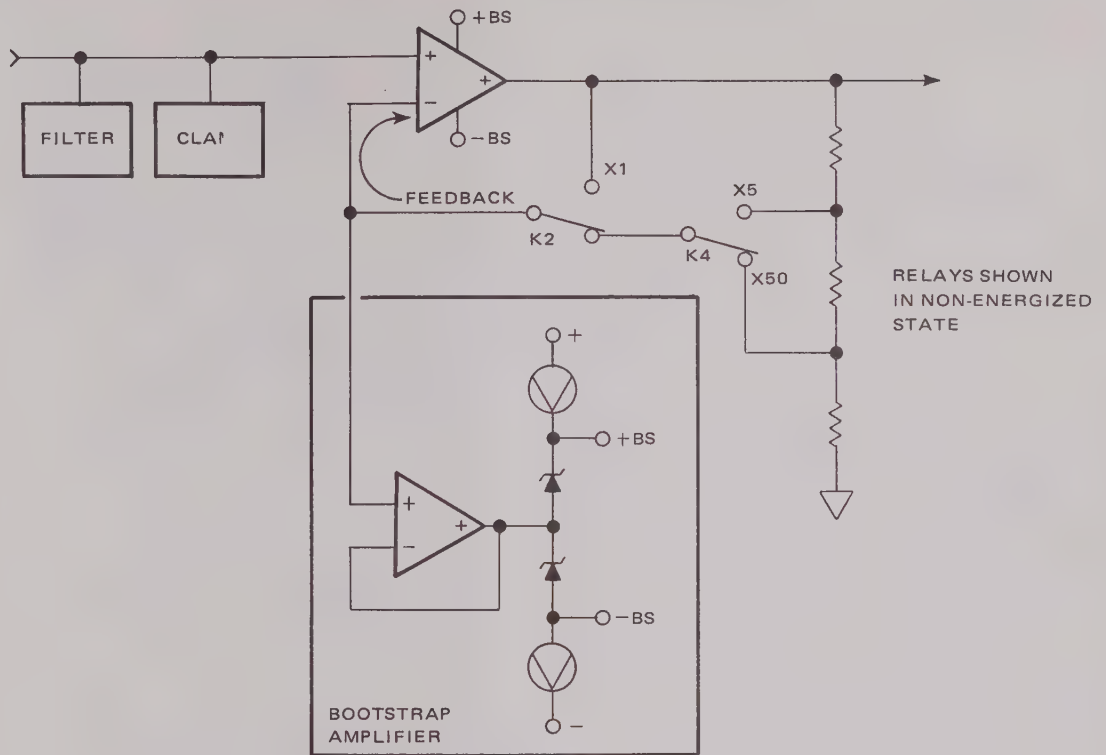

Figure 4.2 - Isolator
4.8 The isolator, shown simplified in figure 4.2, is a potentiometric amplifier with selectable gains of 1, 5, and 50. An integral bootstrap amplifier increases the apparent input impedance of the amplifier to over 1000 megohms. The input of the amplifier is clamp protected against input signals greater than ± 13 volts. Filtering is single pole, R-C type with filter selected shunts of .02, .1, and .5 μF depending on function available and range selected.